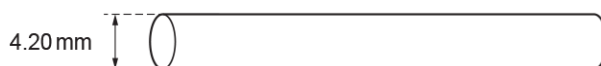

Fig. 16.1 (not to scale)
36. A footbridge is supported by a number of metal cables of the same length. Each cable has uniform cross-section and diameter 4.20 mm as shown in Fig. 16.1.